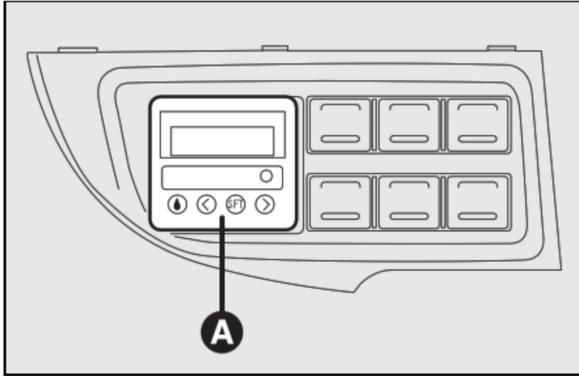

fig. 45
- digital timer **A-fig. 45** to start the heater manually or to program starting time.